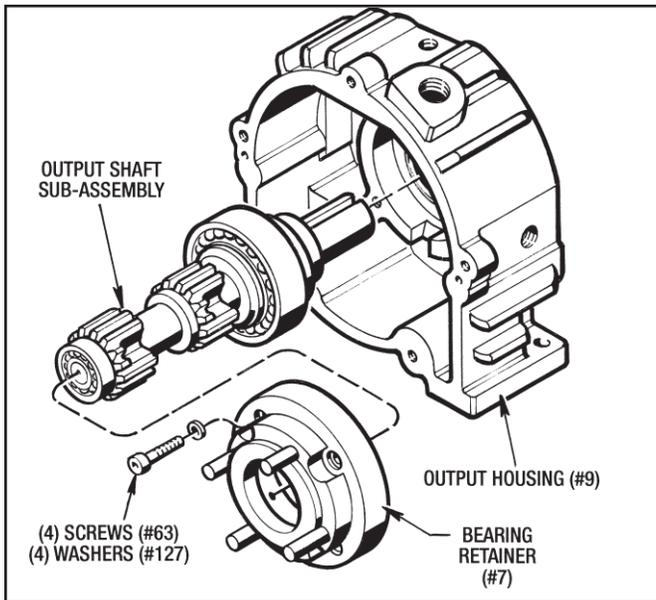

Figure 9.9 - Installing Output Shaft Sub-Assembly
2. Lubricate the oil seal lip with White Grease and Insert the Output Shaft Sub-assembly into the Output Housing (#9) as shown in Figure 9.9.